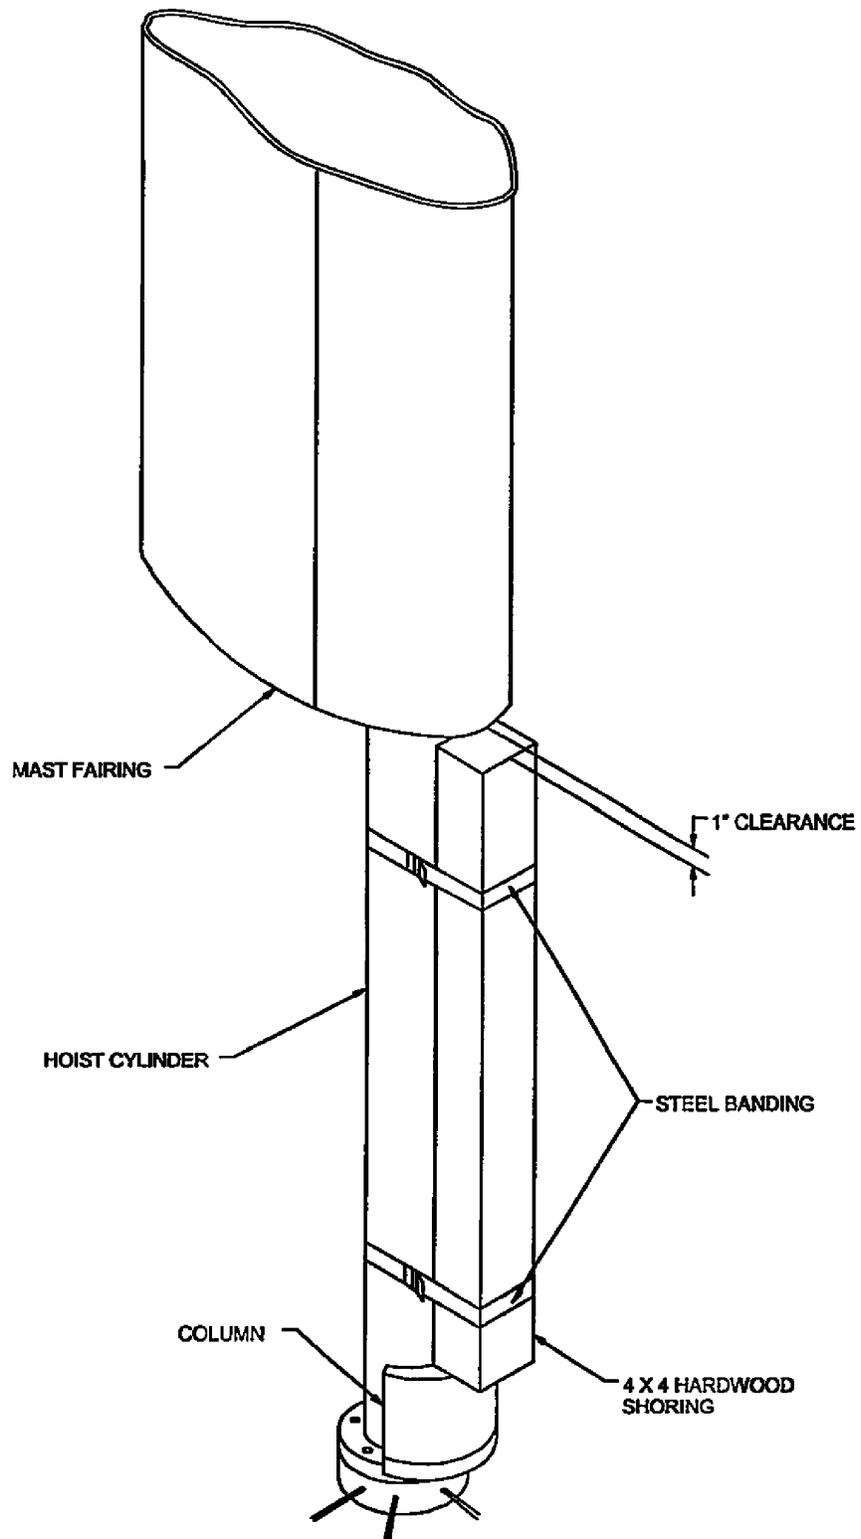

Figure 3-4 Installation of Shoring
- c. Shoring is secured to the mast or the hoist cylinder as shown in Figure 3-4 or 3-5.
- d. Measure the distance from the bottom of the mast to the hoist cylinder column. See Figure 3-4.